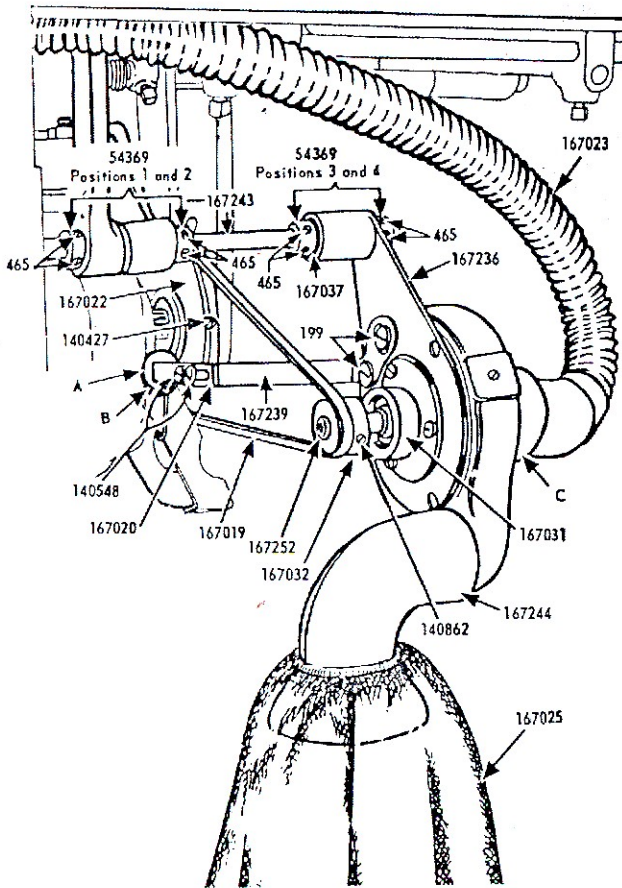
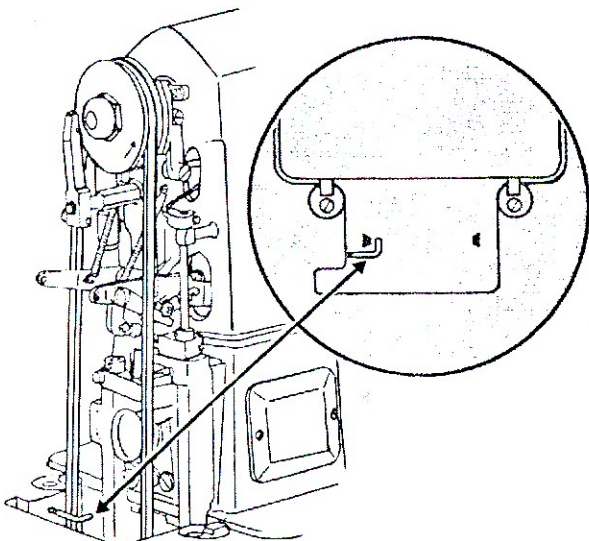

Fig. 56. Installing Blower Unit
Fig. 57. Installing Hose Belt Guard
NOTE: Before installing blower unit, assemble belt tightener to bottom of table using hinge pin 167243 and two collars 54369 in Positions 1 and 2, as shown in Fig. 56. Install blower connection hose belt guard as shown in Fig. 57.
4. Blower bracket 167236 is furnished with grommet 167037. Grommet is pressed fitted in bracket support hole and expands immediately outside both ends of hole. Install blower bracket on hinge pin with two collars 54369 in Positions 3 and 4 as shown in Fig. 56.
9. Loosen two set screws 465 in each of two collars 54369 at Positions 1 and 2 as shown in Fig. 56.
10. By sliding hinge pin with blower secured toward front or rear, as required, align small pulley 167032 on blower with large blower driving pulley 167022 on transmitter. Place two collars 54369 in Position 1 and 2, Fig. 56, firmly against belt tightener brackets, as shown and securely tighten two set screws 465 in each of these collars.
17. Slip one end of hose 167023 over hose connection C, Fig. 56, on blower. Pass the other end through hole in table, behind sewing machine, through hose bracket 167040, Fig. 58, at rear of sewing machine and through cylinder of machine to hose-connection-end of cylinder cover 167058, as shown in Fig. 58. Insert hose-connection-end of cylinder cover in hose and rotate cover two full turns securing cylinder to hose. Belt should pass between cables without touching driving belts or any other moving parts.